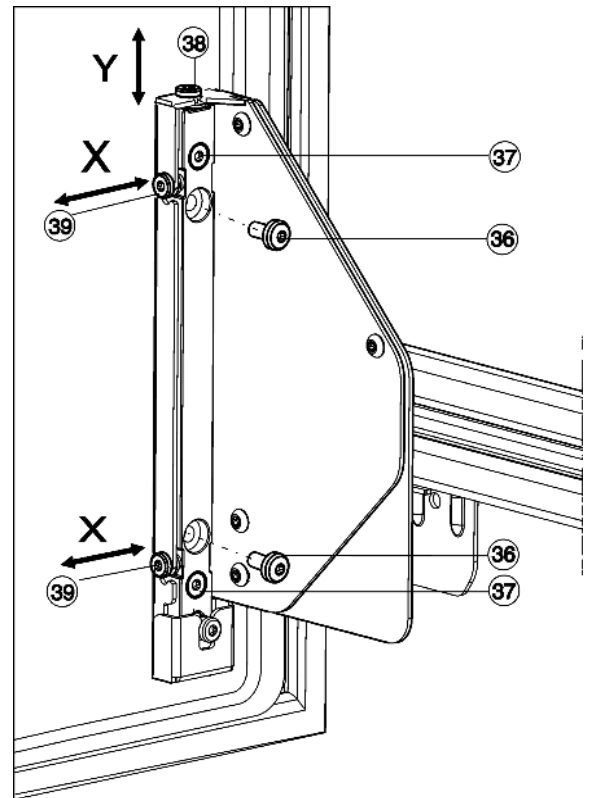

Fig. 26
- ▶ Unscrew and remove the screws Fig. 26 (36).
- ▷ Dispose of the screws Fig. 26 (36), they are no longer needed.
- ▶ Just loosen the screws Fig. 26 (37) by 1 to 2 turns.
- ▶ Turn the adjusting screw (38). Clockwise: for moving the door upwards by 4 mm max. Anticlockwise: for moving the door downwards by 2 mm max.
- ▶ Re-tighten all the screws Fig. 26 (37).
- ▶ If the screws Fig. 26 (36) are still present, unscrew and remove them.
- ▶ Turn the adjusting screws Fig. 26 (39) according to the lateral adjusting direction wanted.
- ▶ After having made the lateral adjustment, re-tighten the screws Fig. 26 (37).